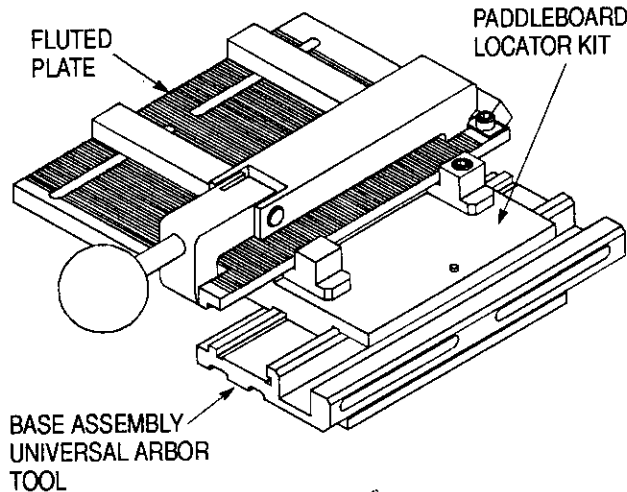

Figure 2
1. Remove the spacer and the fluted plate from the arbor tool assembly by removing the two socket head cap screws. See Figure 2, Detail A.
2. Install the paddleboard terminator kit onto the arbor tool assembly, as shown in Figure 2, Detail B. Re-assemble the fluted plate onto the arbor tool. Hold the locator kit and fluted plate in place with the socket head cap screws. DO NOT tighten the socket head cap screws.